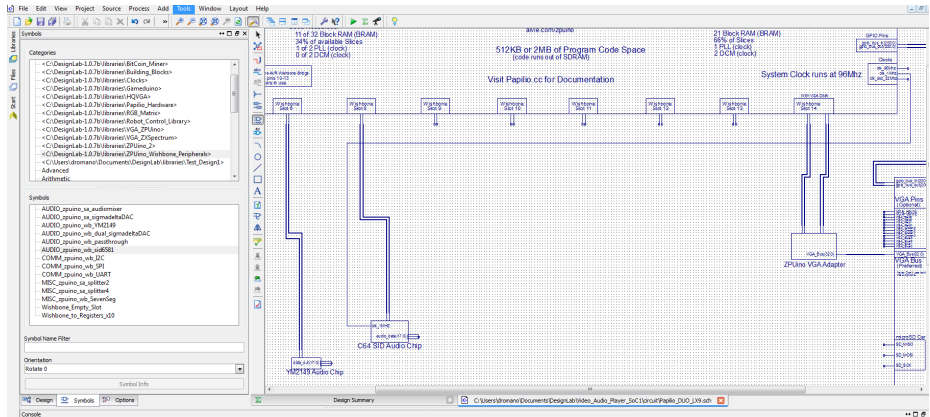

Figure 6-20 Add audio chips
3. Connect the Wishbone bus of the YM2149 audio chip to Wishbone slot 6 of the ZPuino soft processor and the C64 SID audio chip to slot 8. Don't forget to connect the ck_1MHz clock of the SID to the ck_1MHz clock of the ZPUino, as seen in Figure 6-20.